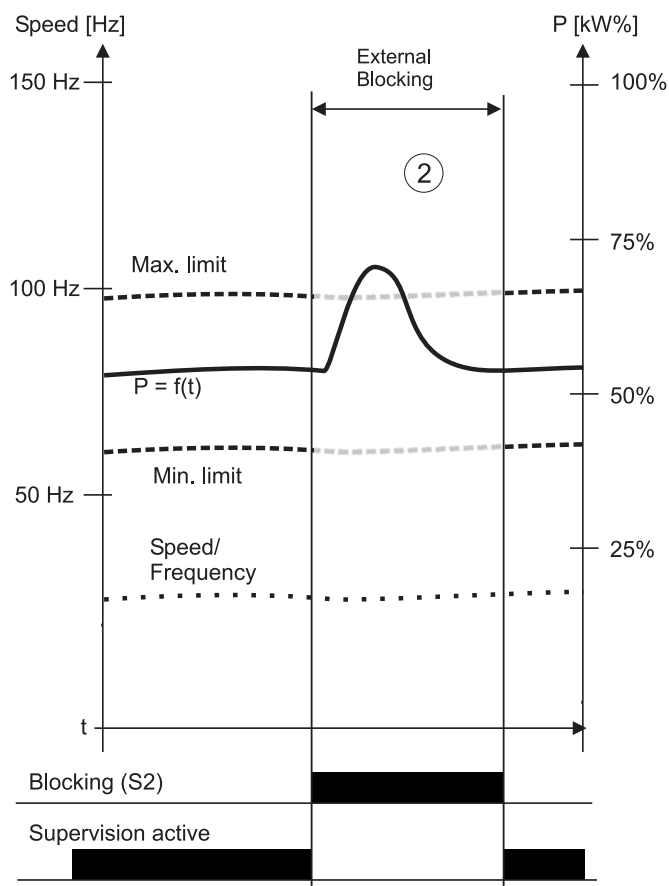

Figure 4.5 External blocking (S2)
Whenever it for application specific reasons may be necessary, the supervision may be blocked using the digital input S2 (28). The supervision remains inactive as long as the digital input S2 is activated. The following figure 4.5 shows an example of the use of external blocking due to an expected rise in the load of the motor. When the expected load disappears again the input S2 is deactivated and supervision is continued.